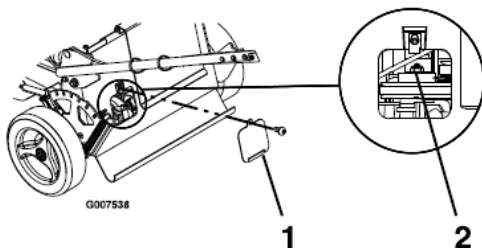

Figure 24
3. Install a grease gun onto the fitting through the gear case access cover opening (Figure 24).